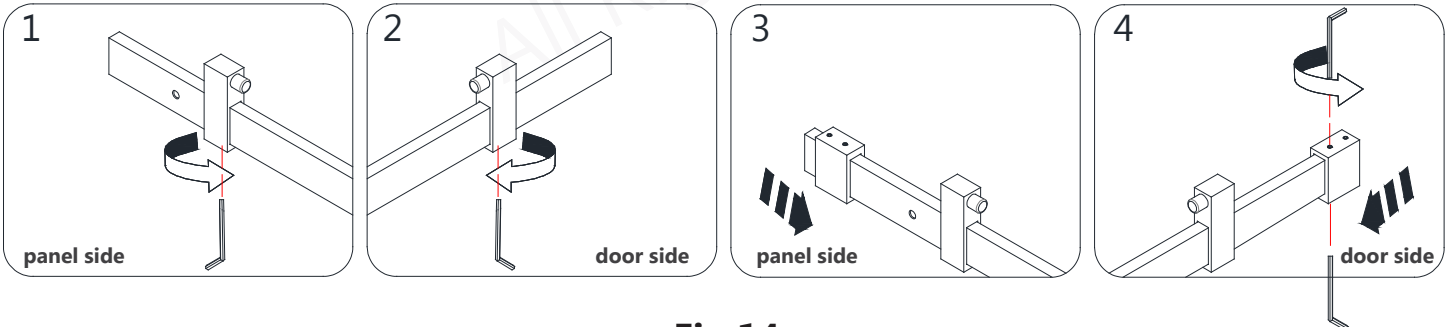

Fig 14
14. Attach the **Stoppers (#05)** and **Guide Rail Brackets (#06)** to both ends of the **Guide Rail (#04)**. Be sure to slide the panel side stopper (Fig 14.1) beyond the first glass holder hole. (Fig 14)